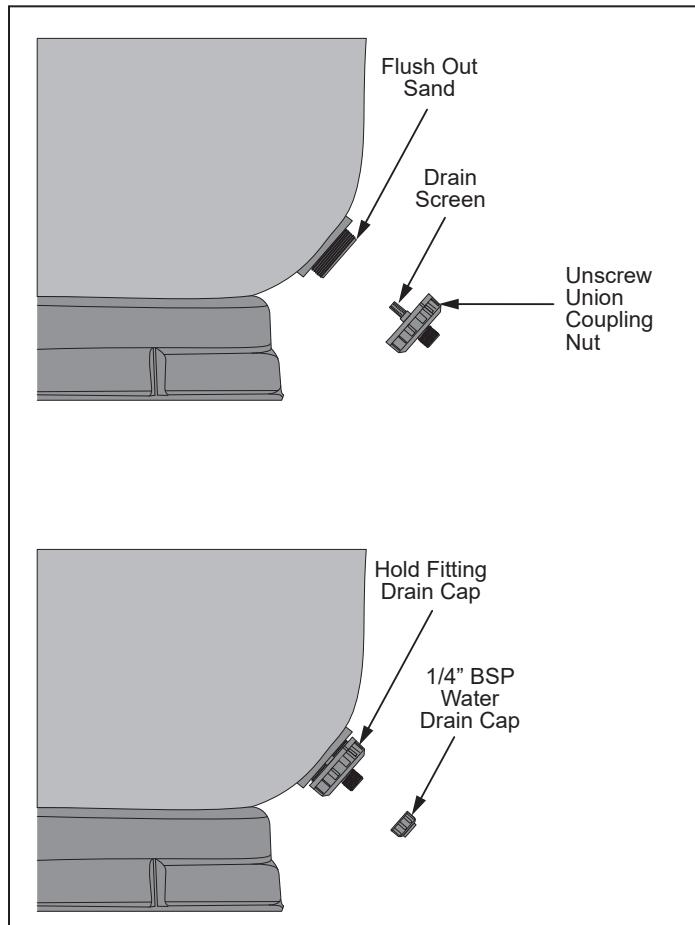

Figure 11. Drain Valve
Any additional piping installed at the water drain must be removable in order to facilitate the further removal of drain components. Allow sufficient space for the flushing of sand from the filter. See Figure 11.
- The larger tank drain is a universal union fitting. Sand removal is easiest without further restriction at this fitting. However, if a short piece of piping is desired to direct the sand being flushed away from the filter base, a universal tailpiece and union nut can be used. See Figure 11.